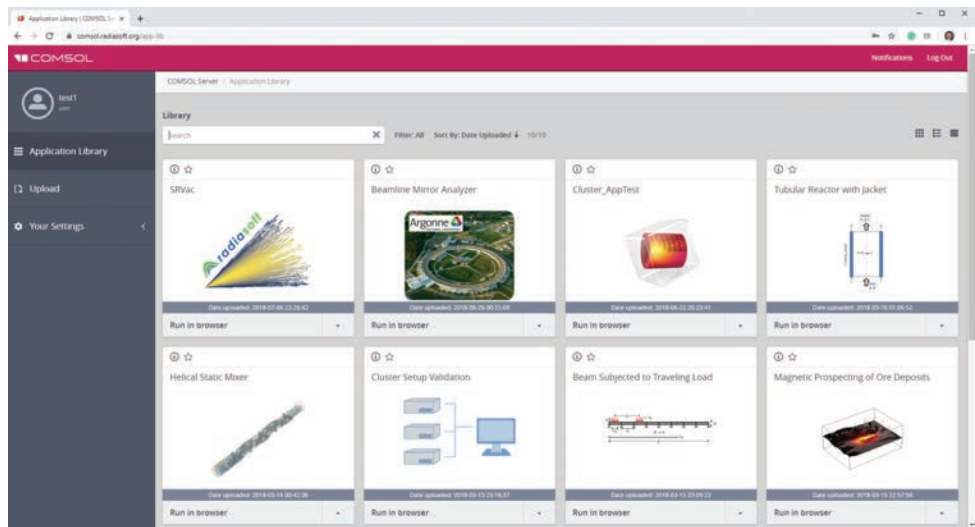

Figure 5. RadiaSoft’s applications in their instance of COMSOL Server™.
**AFTER BUILDING A SIMULATION APPLICATION,** Goldring distributed it to other people involved in the project using the COMSOL Server™ product (Figure 5). According to Paula Messamer of RadiaSoft, creating and deploying an application can make the design process for vacuum chambers much more collaborative and efficient. “The application allows people with lower levels of expertise to get answers to questions without going back to the engineer who created the code and without having to go through the steep learning curve,” she says, adding: “Essentially, it is like a calculator.”